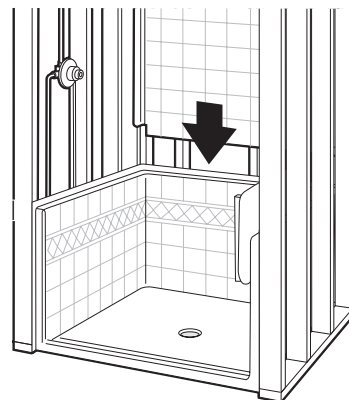

Figure 7
6. Lift and place the back wall onto the base. **See figure 7.**